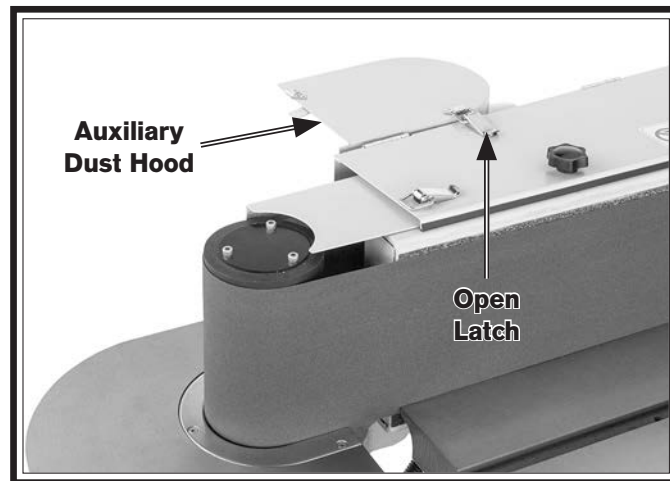

Figure 53. Auxiliary dust hood latched open.
2. Release auxiliary dust hood and latch it open (see **Figure 53**).